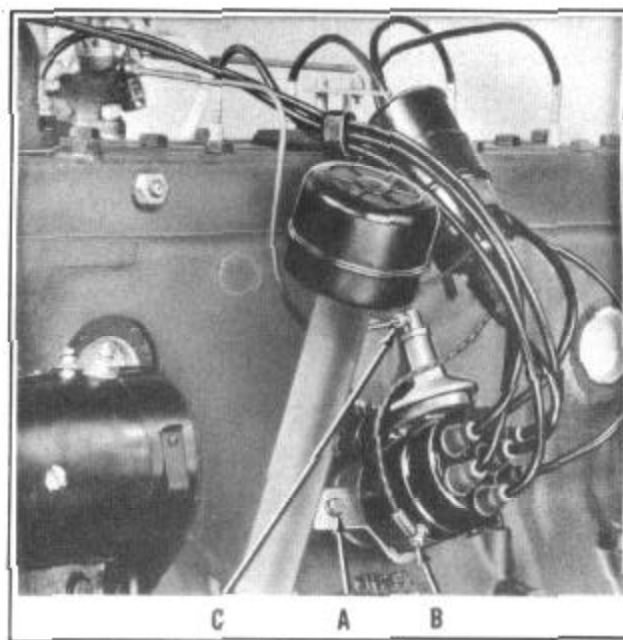

FIGURE 18
2. Disconnect vacuum line (C), Figure 18 and distributor primary wire (B).
3. Remove lock plate, hold down screw (A), attaching distributor quadrant to engine and remove distributor from engine.